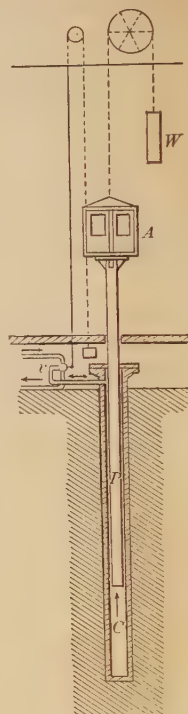

FIG. 49.—Hydraulic elevator.
55. Hydraulic elevators. Pascal's principle is also used in hydraulic elevators, which are commonly employed where heavy machinery is to be lifted. A simple form is shown in figure 49. At the bottom of the elevator well is a pit as deep as the building is high. In the pit is a cylinder (*C*) and in this cylinder is a plunger (*P*), to the top of which the elevator cage (*A*) is firmly fastened. When water under pressure (often simply the pressure of the water mains) is admitted through the valve (*v*) into the cylinder, the plunger rises and forces up the elevator. The weight of the elevator is partly counter-